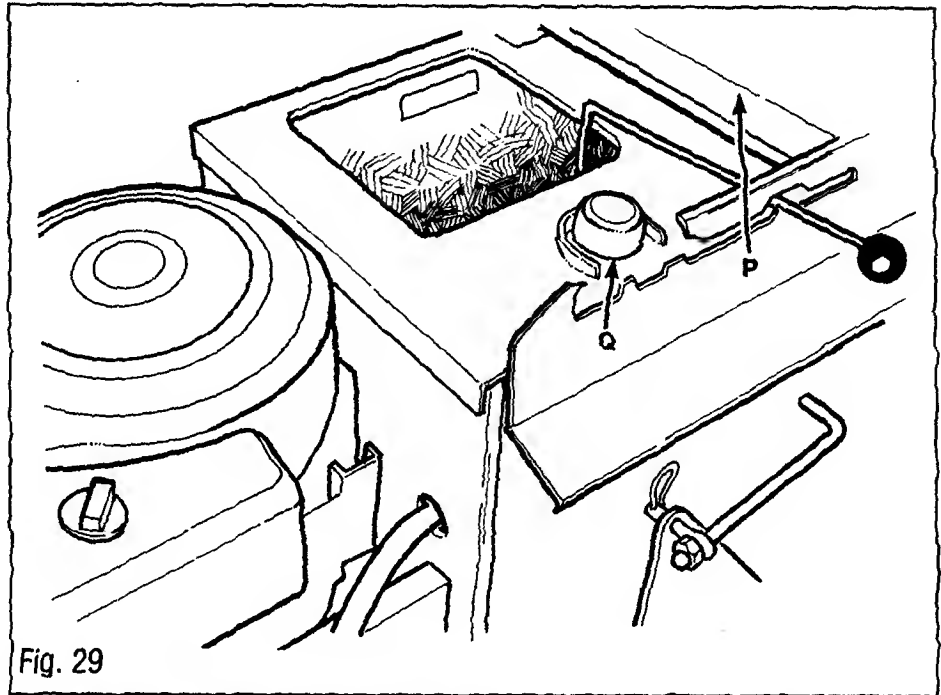

Fig. 29
5. Tilt seat and seat support (P, Fig. 29) forward and upward.
6. SLOWLY unscrew fuel tank filler cap (Q).